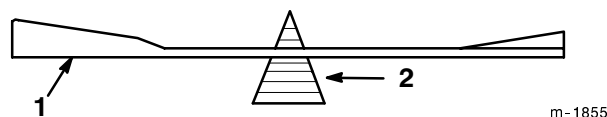

Figure 19
2. Check the balance of the blade by putting it on a blade balancer (Fig. 19). If the blade stays in a horizontal position, the blade is balanced and can be used. If the blade is not balanced, file some metal off the end of the sail area only (Fig. 17). Repeat this procedure until the blade is balanced.